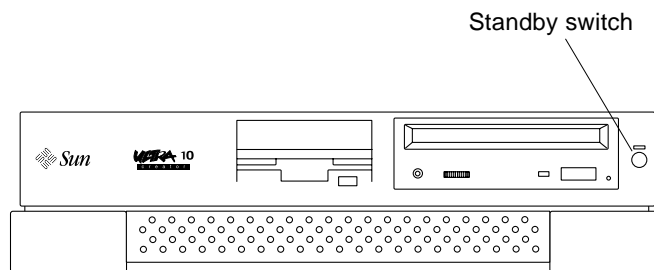
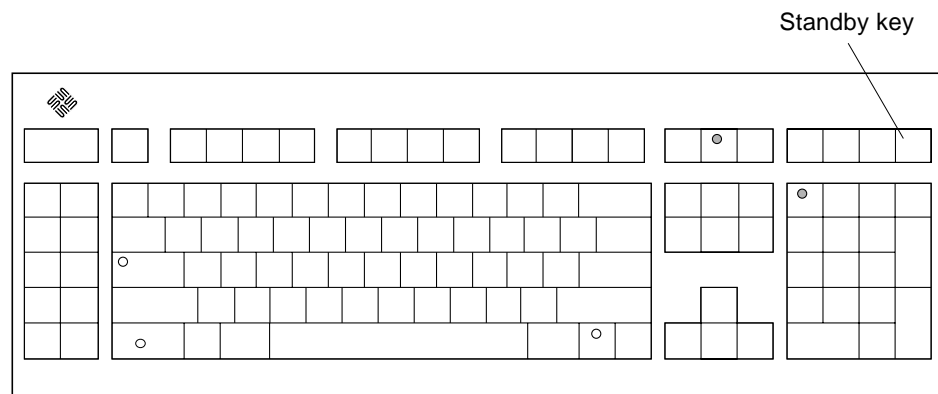

FIGURE 1 System Unit Standby Switch (Ultra 5)
FIGURE 2 Sun Type-5 Keyboard
b. Press the system unit standby switch (FIGURE 1) or press the Sun Type-5 keyboard standby key (FIGURE 2).
e. Press the standby switch (FIGURE 1) or press the Sun Type-5 keyboard standby key (FIGURE 2).